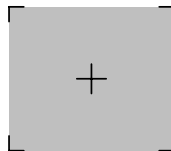

Figure 2-3. Laser Aiming Pattern
3. When the digital scanner senses movement, in its default **Auto Aim** trigger mode, it projects a red laser aiming pattern (shown in Figure 2-3) which allows positioning the bar code or object within the field of view. (To turn off the default **Auto Aim** trigger mode, see Trigger Mode on page 4-9.)